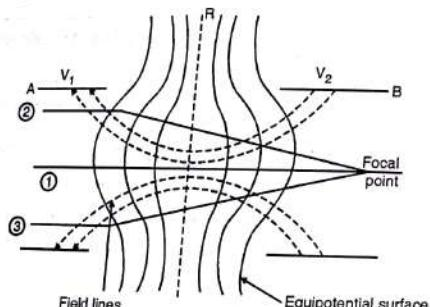

Fig. 7.10.1 : Electrostatic focussing
- A non uniform electric field is produced in the gap as a result of different potentials applied to both the cylinders. In Fig. 7.10.1, we have equipotential surfaces and field lines depicted.
From Fig. 7.10.1 it is clear that beam (1) remains normal to all equipotential surfaces and hence it is simply accelerated and no deviation takes place on its path.
Electron beam (3) will have its path as shown in Fig. 7.10.1, with the explanation as shown for beam (2).